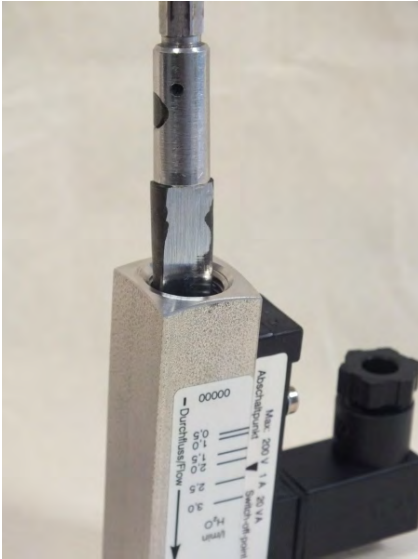

Fig. 44: Seat threaded ring (inlet)
2. ➤ Lightly seat the threaded ring (inlet) with the aid of the threaded ring insertion tool and tighten with a torque wrench (Fig. 44), observing the proper torque (➤ Chapter 11.1 “Tightening torque” on page 67)